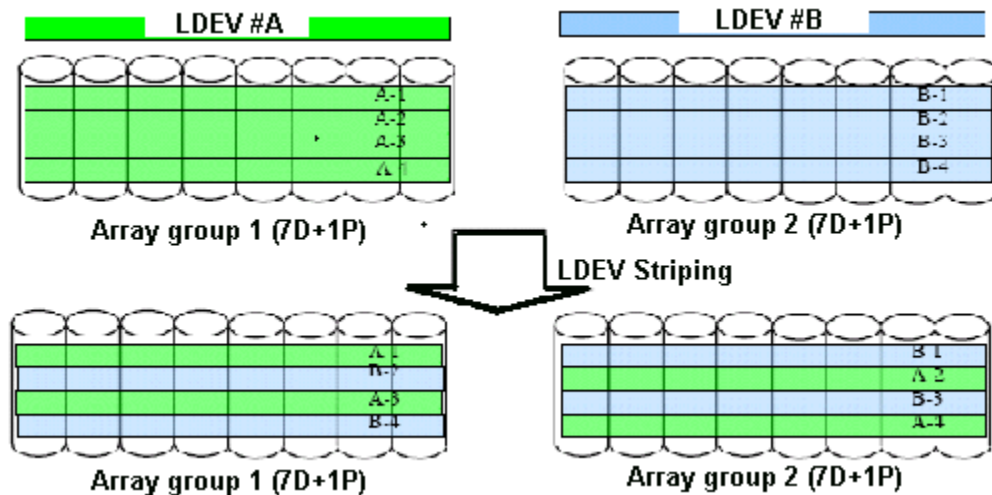

Figure 2-5 LDEV Striping Across 4 RAID 5 (7D+1P) Array Groups
- LDEV striping across four RAID 5 (7D+1P) array groups. The maximum number of LDEVs in this configuration is 2000. See Figure 2-5 LDEV Striping Across 4 RAID 5 \(7D+1P\) Array Groups on page 2-6.